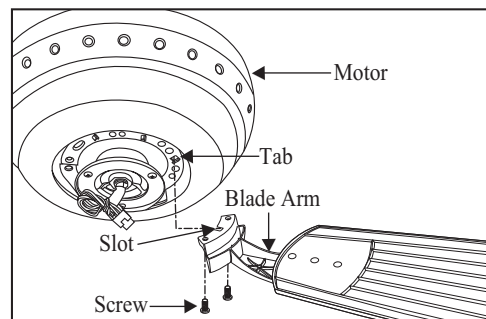

Figure 14
3. Fasten the blade assemblies to the motor housing by lining up the slots of the blade arms with the tabs on the motor housing, then tighten the two screws and washers already installed in the blade arms. (Figure 14)